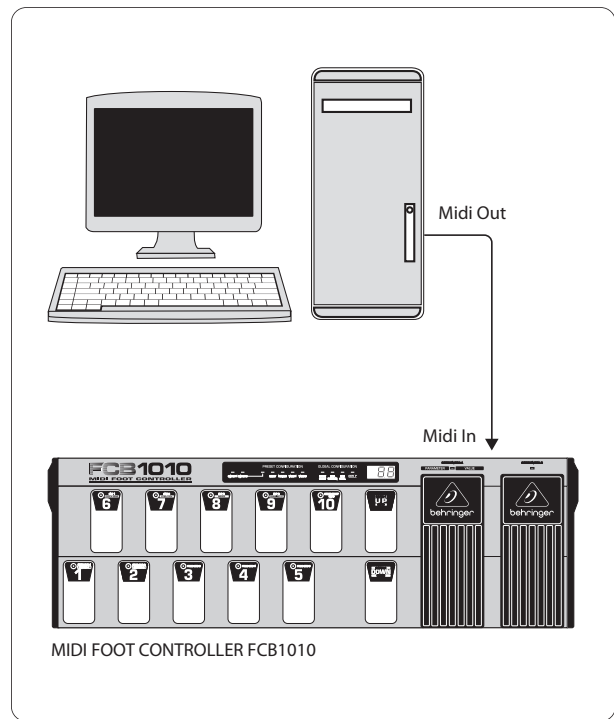

Fig. 2.6: Receiving a SysEx dump
- Connect the MIDI OUT connector of your sequencer or computer to the MIDI IN connector of the FCB1010 (see fig. 2.6)